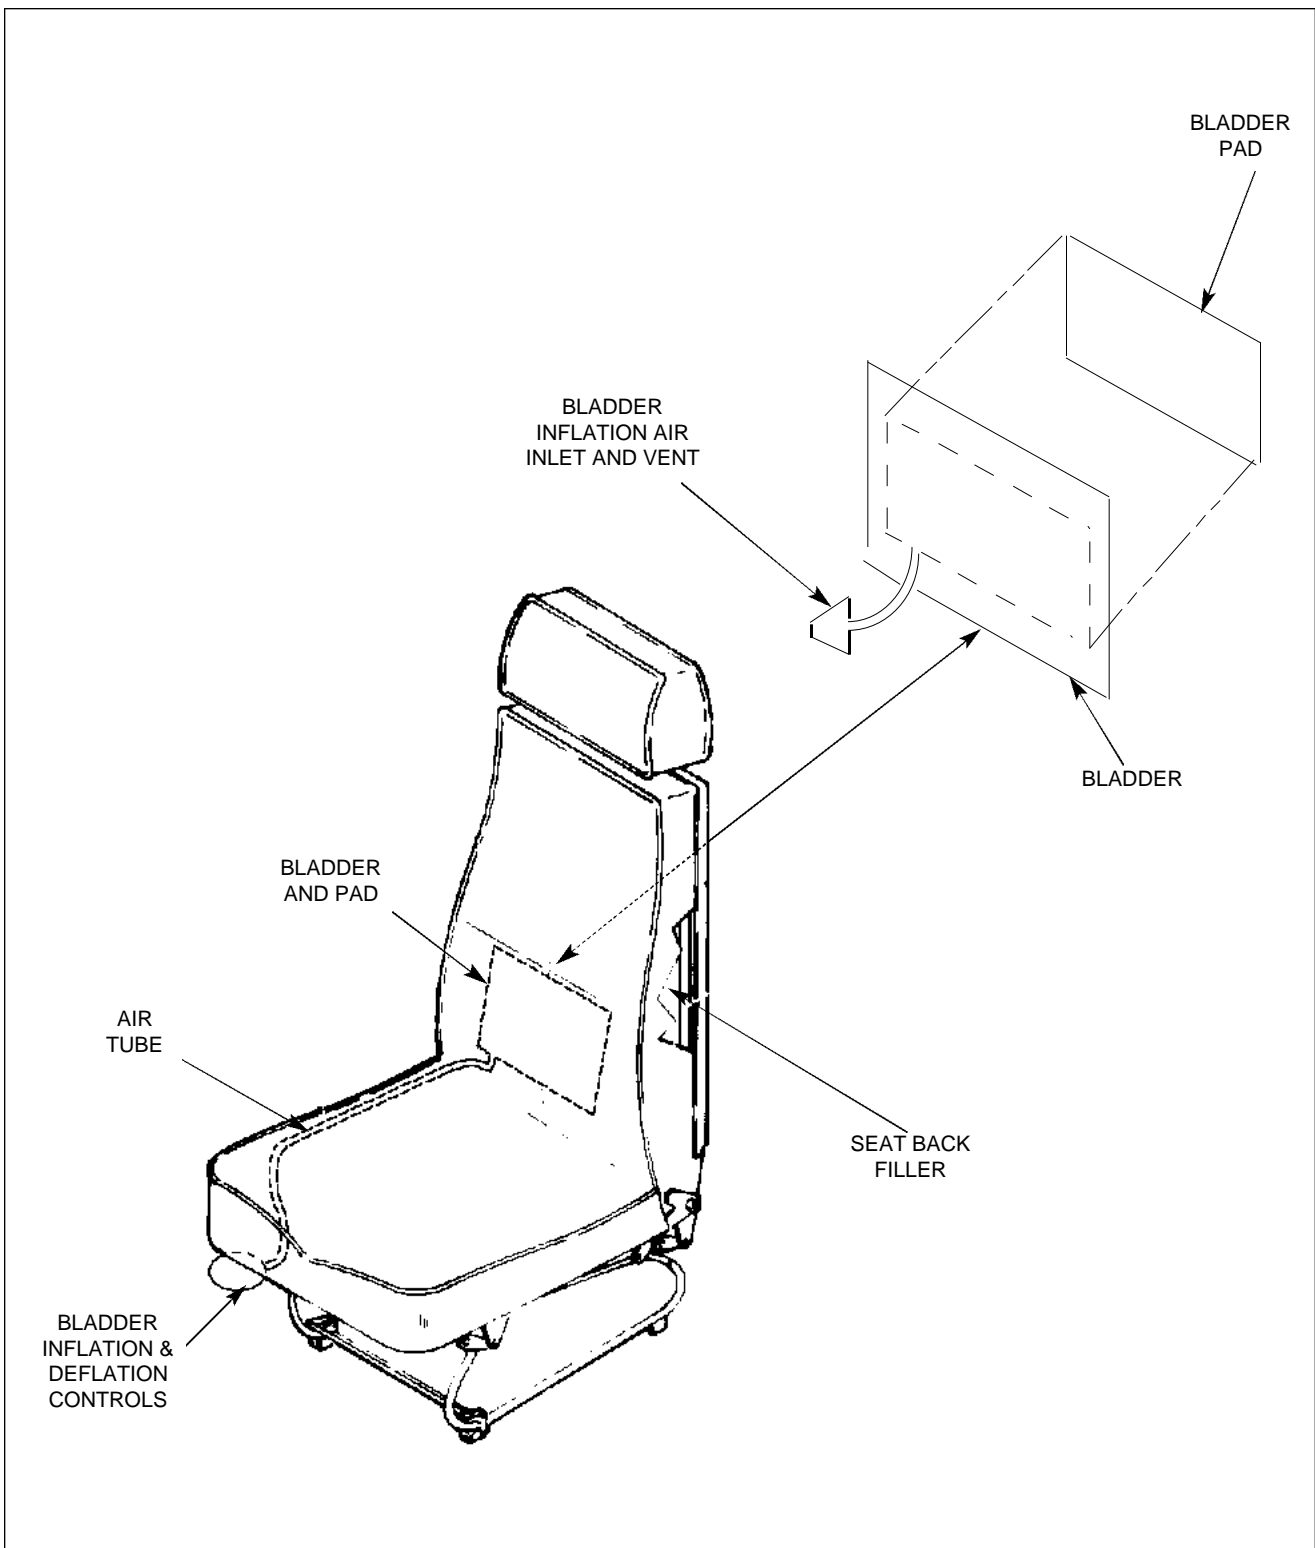

Figure 25-2 Lumbar Seat Bladder Installation
B. LUMBAR SEATS (Refer to Figure 25-2.)